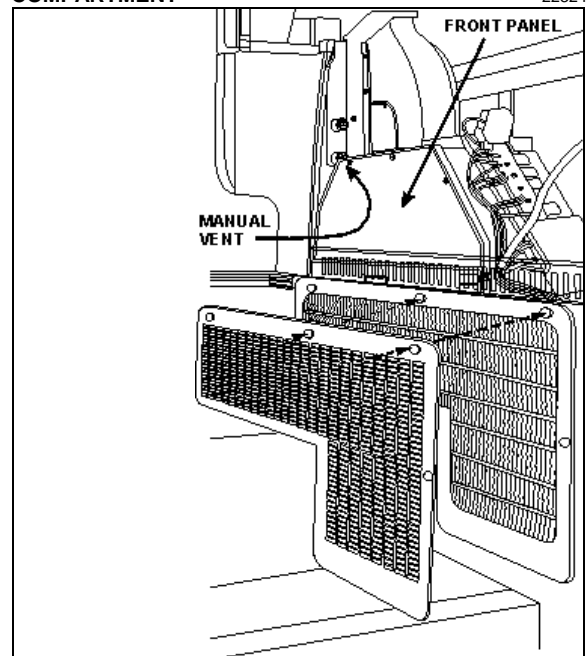

FIGURE 41: DRIVER'S HVAC UNIT
4. From inside of vehicle, remove the two finishing panels in front of unit. Remove the three screws fixing the unit front panel. Open the manual vent located inside the HVAC unit, on the driver's side (Fig. 41) to ensure an efficient draining.